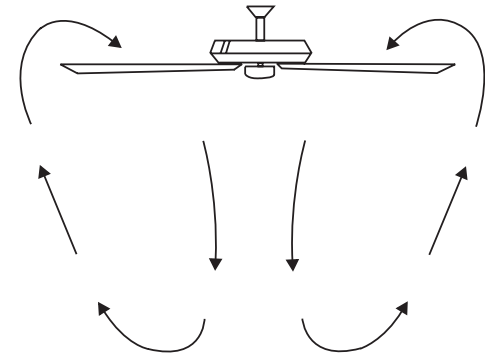

Fig. 20
**Warm weather** - Forward (counter clockwise) A downward airflow creates a cooling effect as shown in Fig. 20. This allows you to set your air conditioner on a warmer setting without affecting your comfort.